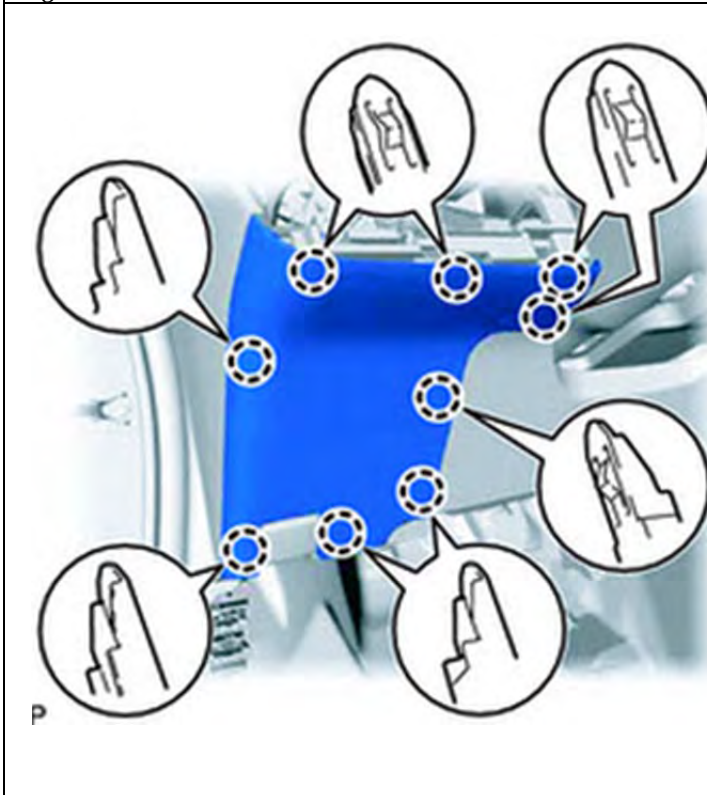

Figure 21a
21. Engage the 9 claws to install the lower instrument panel finish panel LH as shown in the illustration. Connect each connector. Engage the 4 claws and 2 clips to install the No. 1 switch base. See figure 21a and figure 21b.